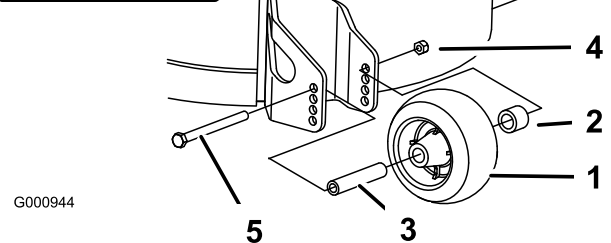

**Figure 28**
3. Adjust the anti-scalp rollers as shown in Figure 27, Figure 28, and Figure 29.